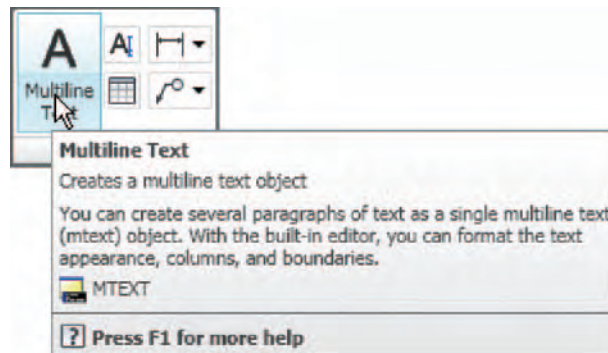

Fig. 6.22 Selecting **Multiline Text...** from the **Home/Annotation** panel
2. Either *left-click* on the **Multiline Text** tool icon in the **Home/Annotation** panel (Fig. 6.22) or *click* on **Multiline Text...** in the **Draw** toolbar or *enter t* at the command line: